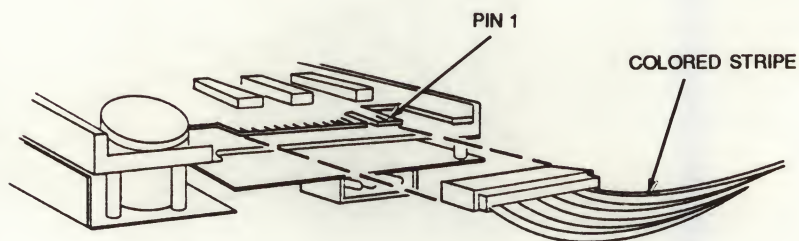

Figure 3-6 Connecting the Ribbon Cable to the Tape Drive
6. Connect the ribbon cable to the back of the tape drive as shown in Figure 3-6.